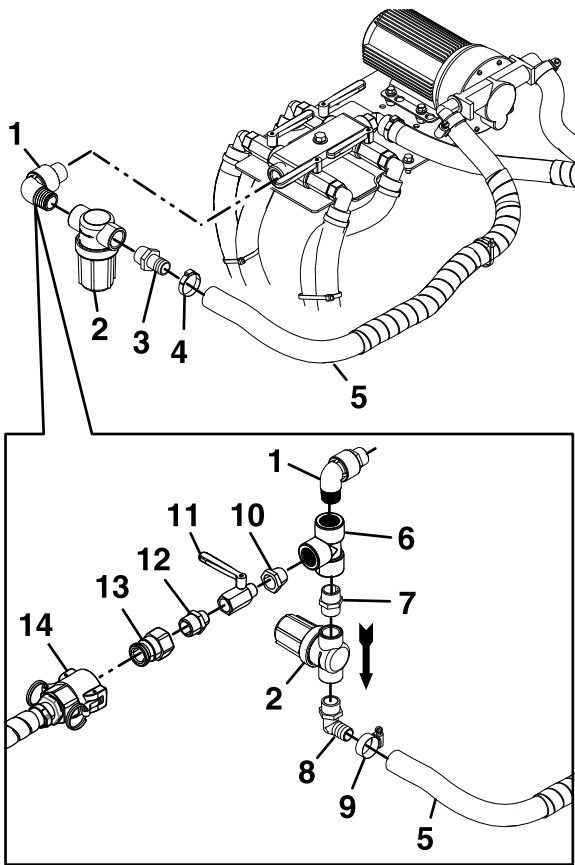

Figure 6
5. Remove the clamp and slit the hose that connects to the strainer. Remove and retain the straight fitting from the strainer (see Figure 6). Rotate the strainer and elbow fitting clockwise 90 degrees. Unscrew the strainer from the elbow fitting.
- Install the tee fitting onto the elbow fitting as shown in Figure 6. Insert the nipple fitting and new elbow fitting into the strainer ports. Assemble the strainer assembly to the tee fitting; make sure the strainer flow arrow is pointing down. Place the clamp on the spray hose and insert the spray hose onto the new elbow fitting. Tighten the clamp to secure the hoses to the fitting. Install the new straight fitting into the tee fitting port.
Note: If needed, a longer hose has been provided for item 5 shown in Figure 6. This hose will have to be cut down for proper fit.
- Assemble the valve, fittings, and adapter and install into the tee fitting. Attach the adapter (item 13 in Figure 6) to the tank hose.